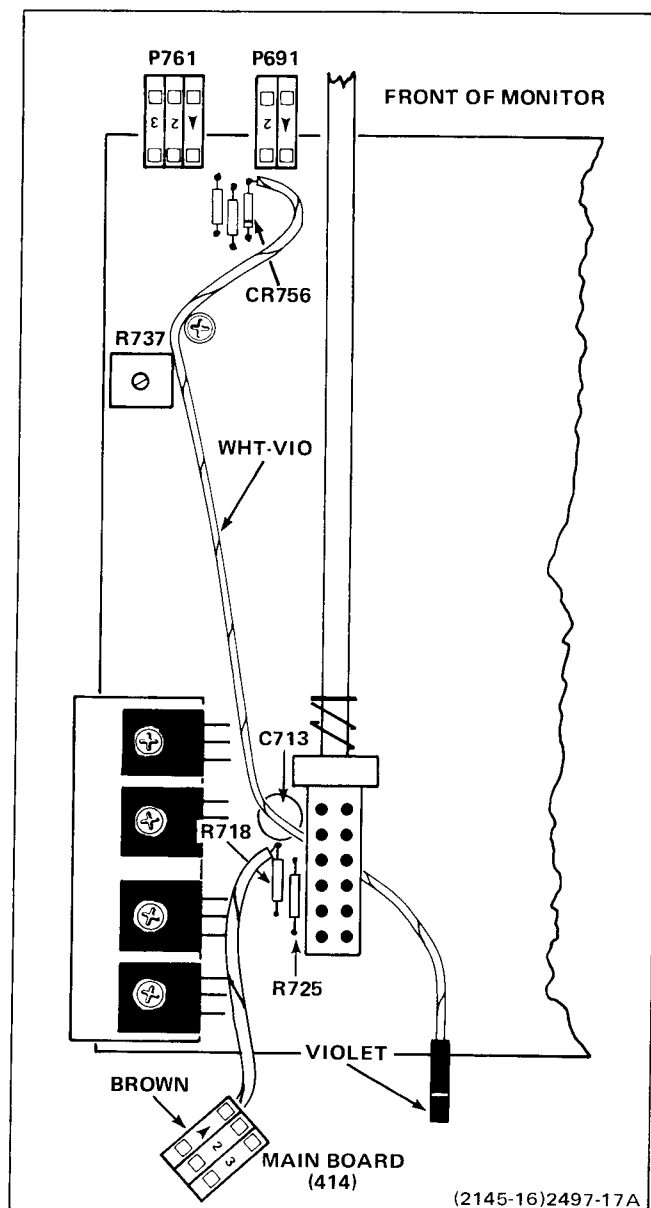

Figure 1-6. Adding wires to 414 Main board.
6. Install white-violet wire (with violet connector) on Main board. See Figure 1-6.
7. Install white-brown wire (with brown connector). Solder free end of wire to junction of R712, R718, and C713. See Figure 1-6. Dress connector end of wire between Main board and rear panel into monitor cavity.